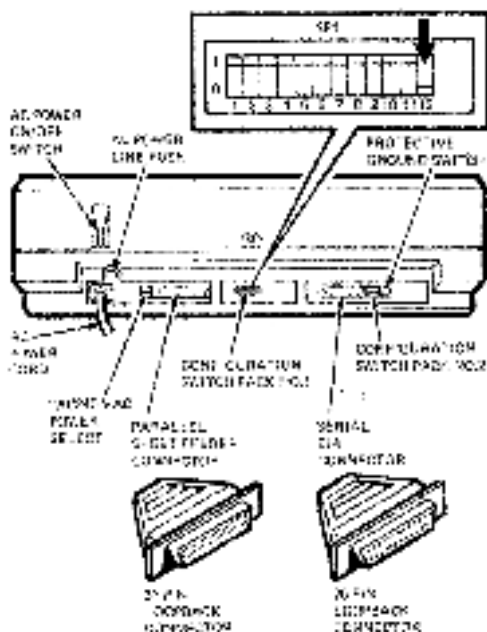

Figure 1-1 Self-Test Configuration Switch and Loopback Connectors
2. Enable the self-test configuration switch (SP1, switch 12) by setting it to the down (0) position (Figure 1-1).
1. Remove all communication cables from rear of printer (Figure 1-1).
4. Install the 25-pin loopback connector to EIA serial connector at rear of printer (Figure 1-1).
5. Install the 37-pin loopback connector to parallel sheet feeder connector at rear of printer (Figure 1-1).
6. Set power switch to ON (Figure 1-1). Carriage should move to left margin.
When finished testing, set the self-test configuration switch (SP1, switch 12) to the up (1) position (Figure 1-1) and remove the paper. Remove the loopback connectors and reconnect the communications cables to their respective connectors (Figure 1-1).
4. Set the power switch to ON (Figure 1-1). The carriage should move to the left margin.
When finished testing, set the self-test configuration switch (SP1, switch 12) to the up (1) position (Figure 1-1) and remove the paper.